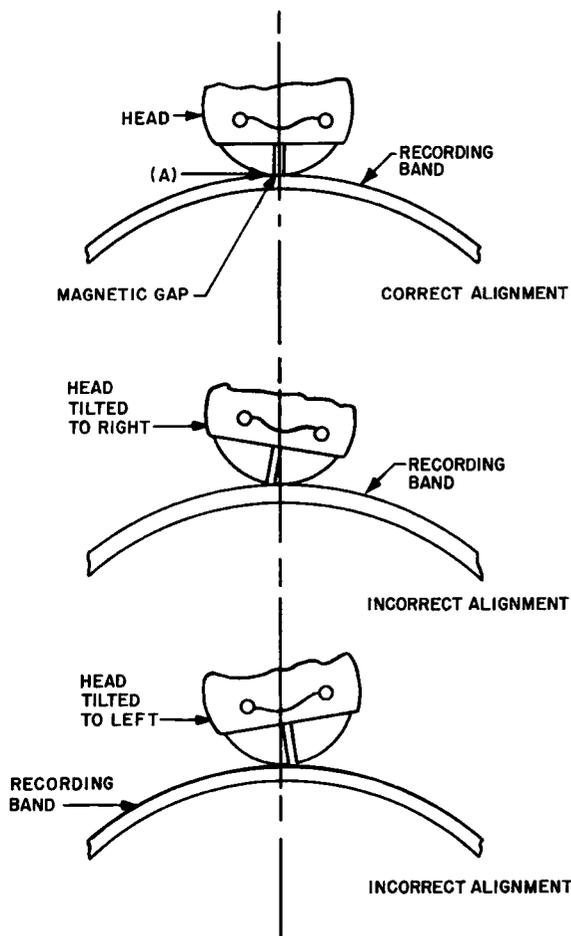

Fig. 9 – Position of Record Head Magnetic Gap on Recording Band
3.15 Positioning of Head (Fig. 9)